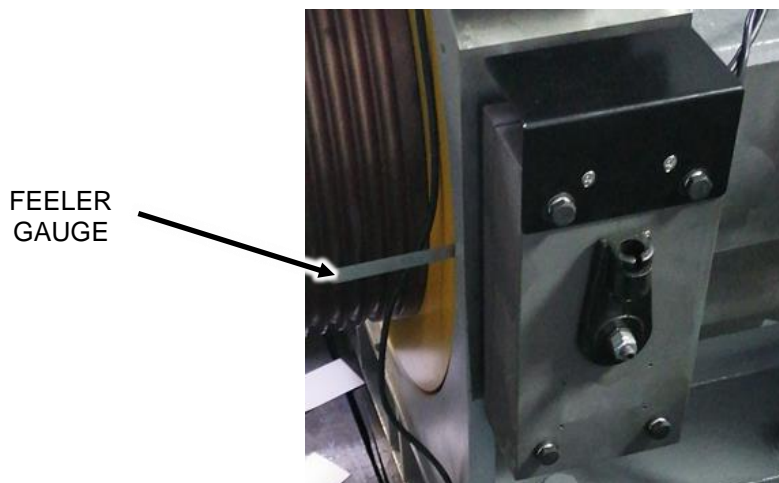

Figure 13
- If brake pad wear is excessive replace the brake pad or replace the entire brake assembly. See Figure 13.